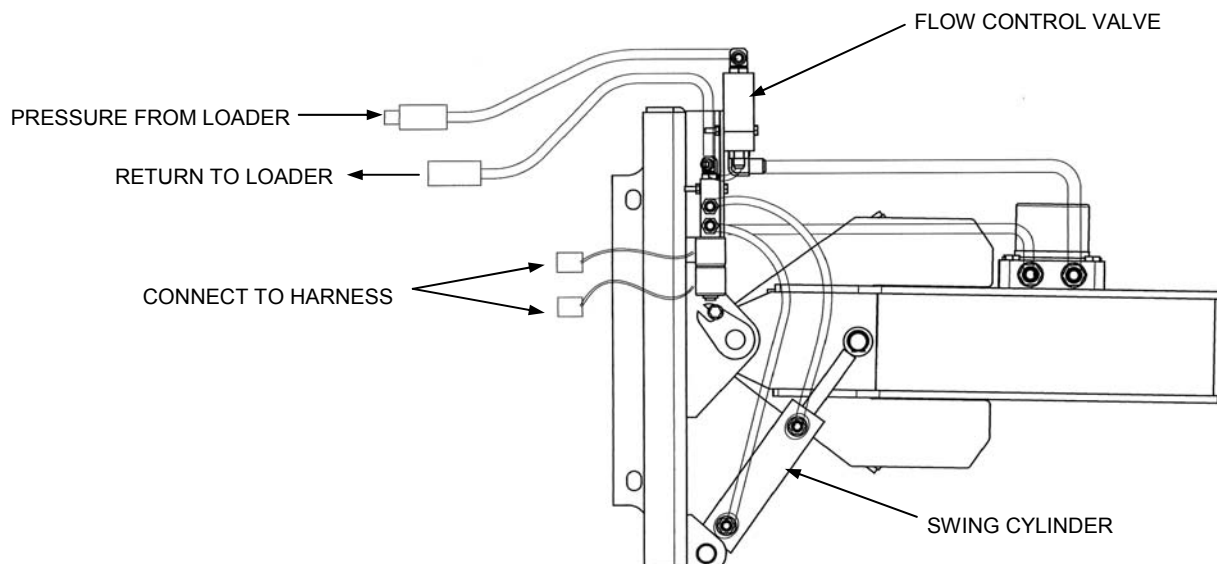

Figure 1 Hooking up Hydraulic Lines
2. Connect hoses as shown in **Figure 1**.